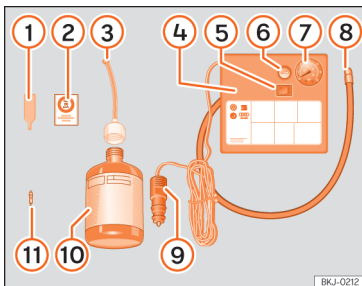

Fig. 246 Standard display: contents of the anti-puncture kit.
The anti-puncture kit is located underneath the floor covering in the luggage compartment. Includes the following components >>> **Fig. 246**:
- Unscrew the tyre valve cap and insert. Use the device >>> **Fig. 246** ① to remove the valve cap. Place it on a clean surface.
- Shake the tyre sealant bottle vigorously >>> **Fig. 246** ⑩.
- Screw the tyre inflation hose >>> **Fig. 246** ③ into the tyre sealant bottle. The bottle's seal will break automatically.
- Remove the filler cap >>> **Fig. 246** ③ and screw the open end of the tube into the tyre valve.
- Replace the howitzer with the device >>> **Fig. 246** ① onto the tyre valve.
- Screw the tyre inflation tube of the compressor >>> **Fig. 246** ⑧ on the tyre valve.
- Check that the air evacuation screw is closed >>> **Fig. 246** ⑥.
- Attach the connector >>> **Fig. 246** ⑨ to the vehicle's 12 volt power outlet >>> page 233.
- Switch on the air compressor with ON/OFF switch >>> **Fig. 246** ⑤.
- Attach the sticker >>> Fig. 246 (2) to the instrument panel display, within the driver's field of vision.
Screw in the inflator tube >>> Fig. 246 (8) again and check the pressure on the gauge (7).